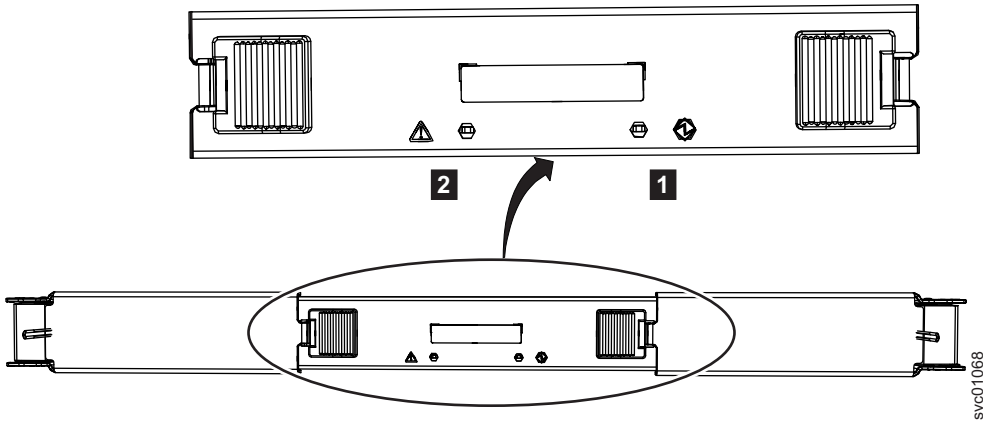

Figure 65. LEDs on a secondary expansion module
2. Identify the secondary expander module to be replaced; Figure 65 on page 81 shows the LEDs on top of a secondary expansion module.